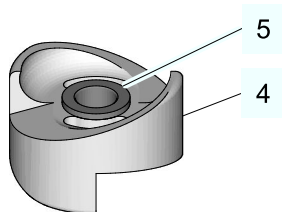

Fig.8: Rotor with bush
3. Press the bearing (5) from below into the rotor (4), fig. 8.